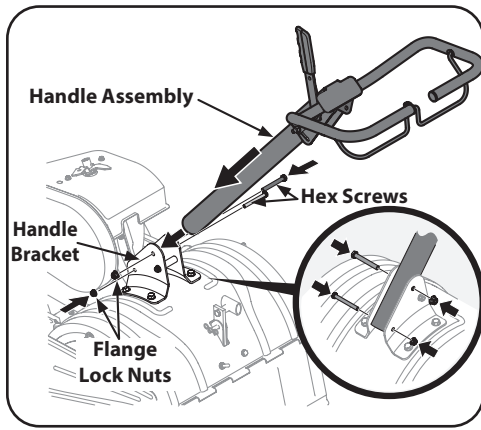

Figure 2-3
- Place the handle assembly in position between the handle bracket. See Figure 2-3.